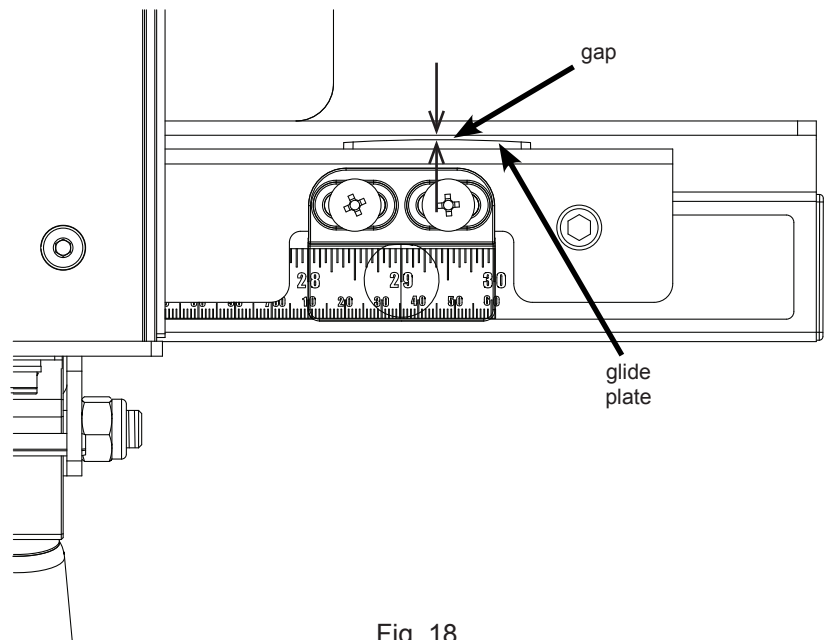

Fig. 18
18. Next, move the fence to the right end of the main tube, repeat the above process to position the main tube, and tighten the right-most bolt (see Fig. 18). Once both ends of the main tube are adjusted correctly, use a 13 mm wrench to tighten the remaining M8x1.0x16 hex head bolts to mount the main tube to the front rail. Be careful not to overtighten the bolts because you may strip the threads in the main tube (recommended torque = 8.0 ft·lbs). The fence should now slide smoothly along the main tube without binding and without excessive play.